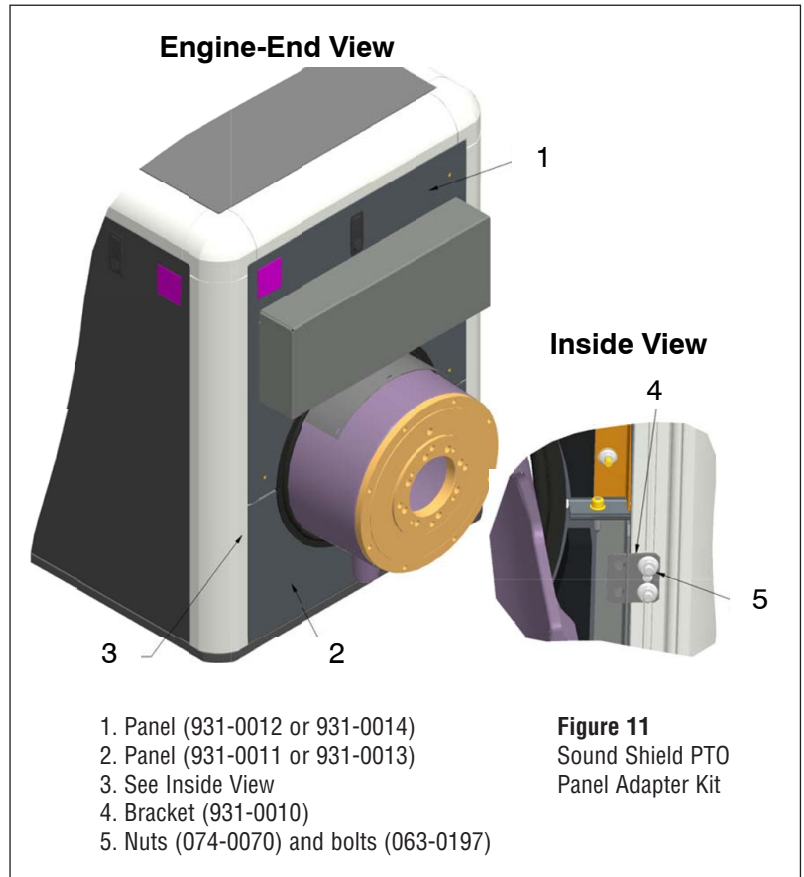

Figure 11
- 7.1 Install the sound shield's front panel with the parts identified in Figure 11.